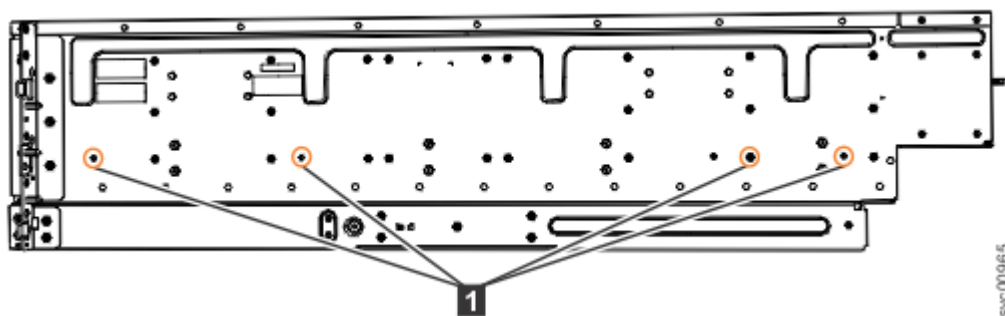

Figure 34. Screw locations to attach the inner rail to the enclosure
4. Use four M4 screws to attach the inner rail to the side of the enclosure. Figure 34 on page 45 shows the screw locations.